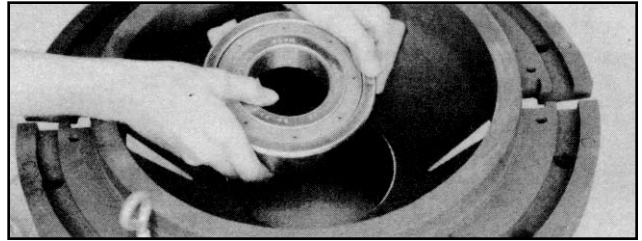

Figure 57
5. Remove remaining rotor bearing, Figure 57.